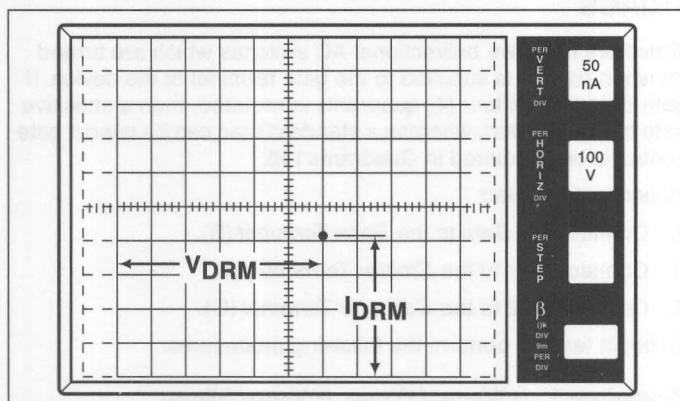

Figure 19.9 (+) I_{DRM} is equal to 205 nA at (+) V_{DRM} equal to 600 volts
2. Increase *Variable Collector Supply Voltage* to the rated V_{DRM} of the device and observe the dot on the CRT. Read across horizontally from the dot to the vertical current scale. This measured value will be the leakage current. (See Figure 19.9.)